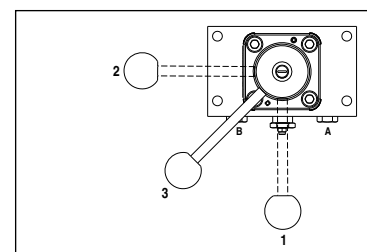

Figure 7
(See Figure 7)
4. Rotate the control valve handle to the neutral ("3") position (see Figure 7 for valve positions).